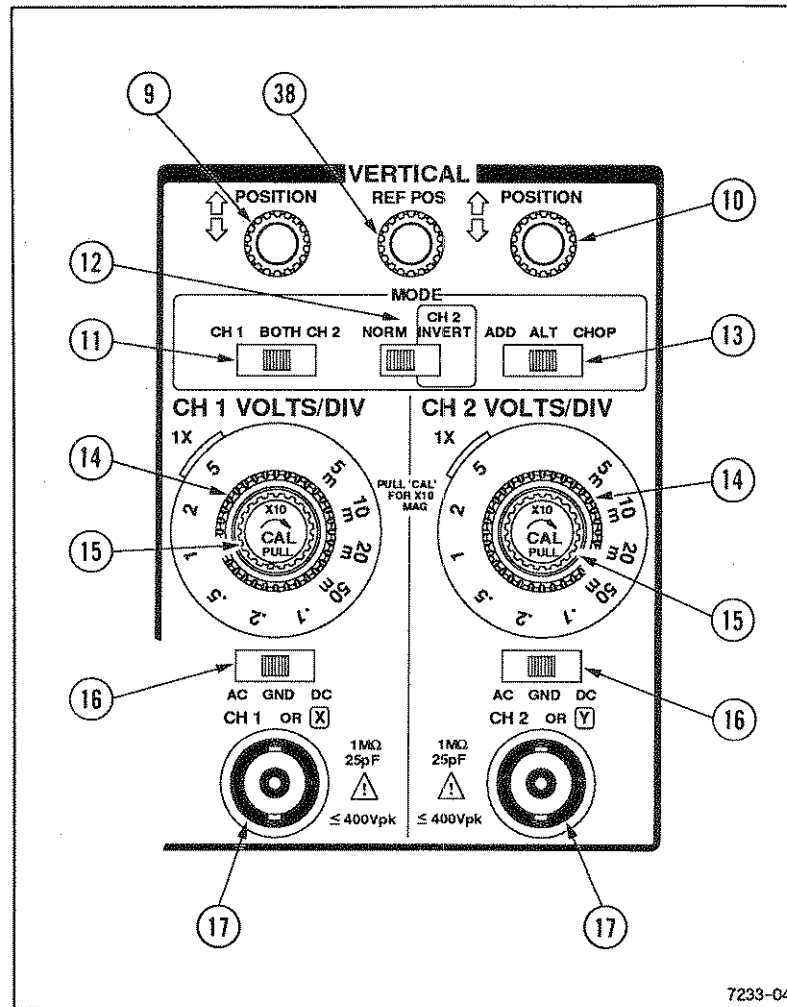

Figure 3-2. Vertical controls and connectors.
See Figure 3-2 for the location of items 9 through 17.